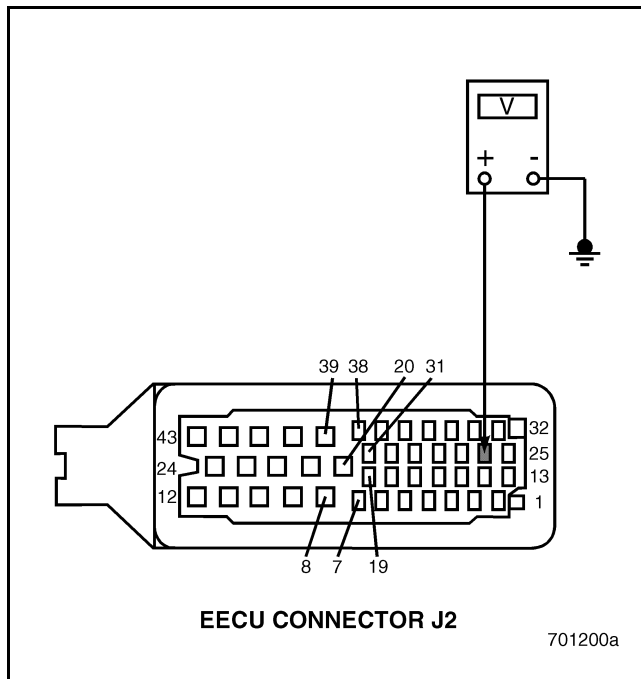

Figure 103
4. Measure the voltage between Engine Electronic Control Unit (EECU) connector J2 pin 26 and a good ground (see Figure 103).